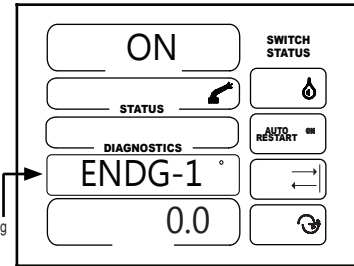

Figure 14-2
- If the sector was never programmed and there are no lower numbered end guns programmed then the on angle will be 0.0°. See figure 14-2.